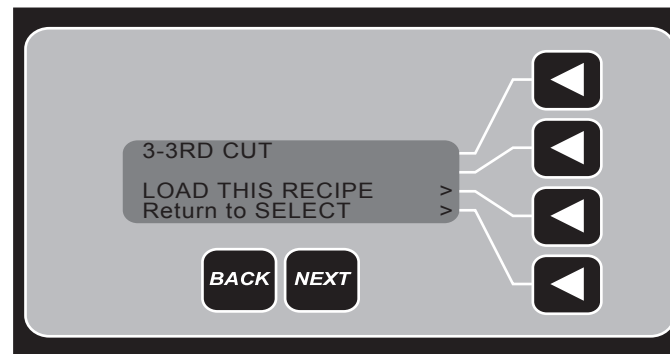

Fig. 9
3. Select LOAD THIS RECIPE (Fig 9).